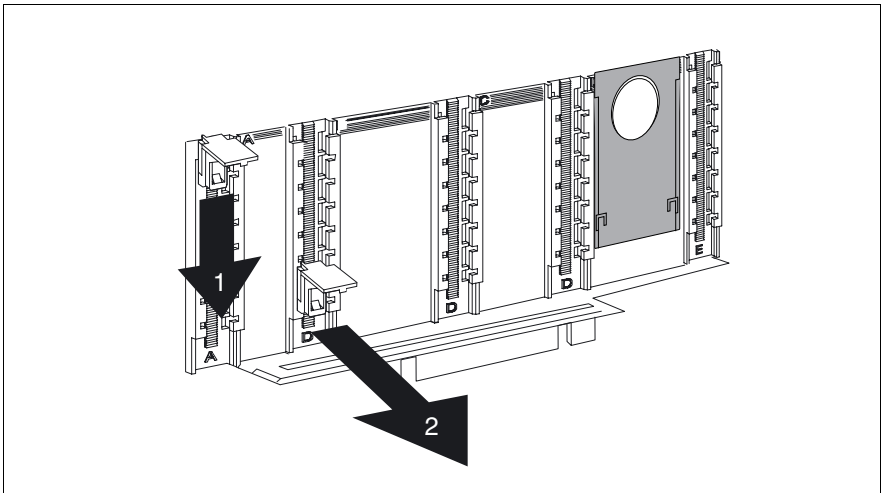

Figure 33: Removing engaging hooks from the removal tool
- ▶ Push the engaging hooks down until they disengage from the removal tool (see figure 33 on page 101), and keep them in a safe place.